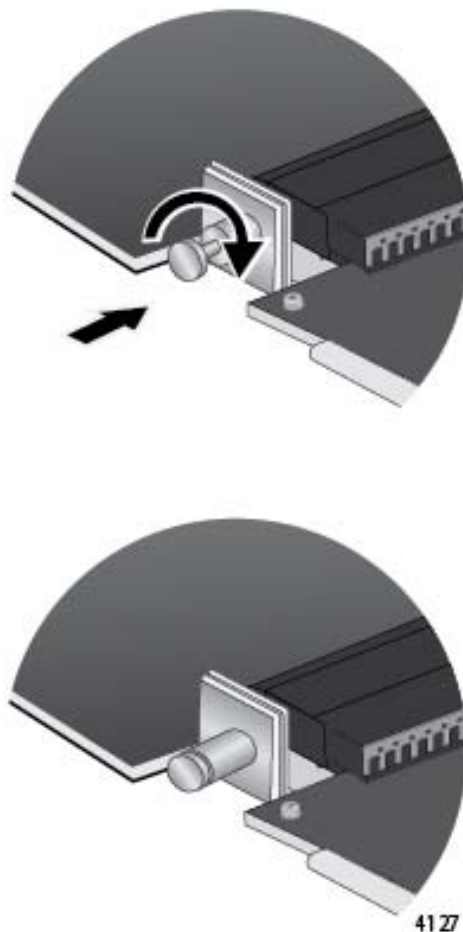

Figure 86. Releasing the Retaining Pin
11. Turn the retaining pin on the side of the line card one quarter turn to release it. Refer to Figure 86 on page 150.